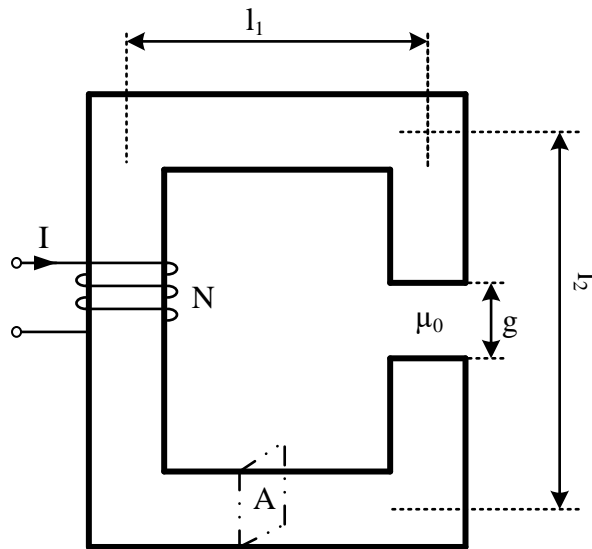

Figure 1: The Magnetic Circuit
Q.1. The magnetic circuit seen in figure 1 is composed of a steel core B-H characteristics of which is given in the attached file. The geometric and electrical data are given as follows: